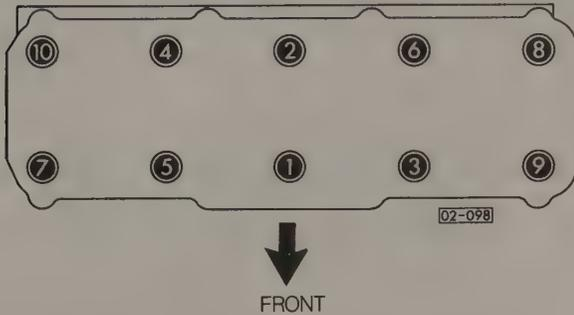

Fig. 4-19. Cylinder head bolt tightening sequence for all 1985–1988 gasoline and diesel engines.
- Torque the bolts to 40 Nm (30 ft. lb.), in the sequence shown in Fig. 4-19. Repeat the sequence, torquing the bolts to 60 Nm (43 ft. lb.). Repeat the sequence a third time, tightening each bolt an additional 1/2 turn. Alternatively, this last step may be done as two 1/4 turns.